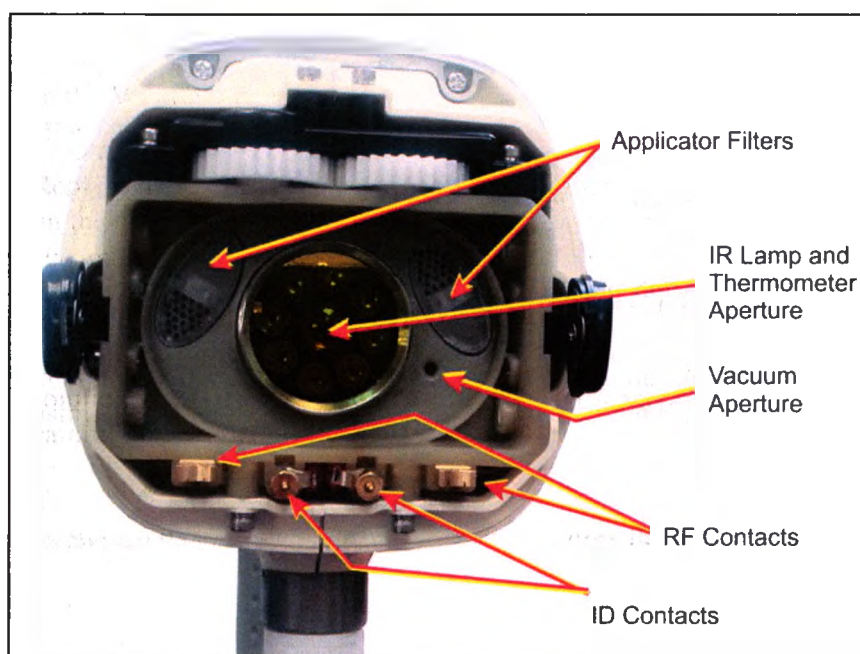

Figure 40: VSmooth Applicator's Internal Components
3. Clean the VSmooth applicator's interior components at the end of every day as follows (see Figure 40):